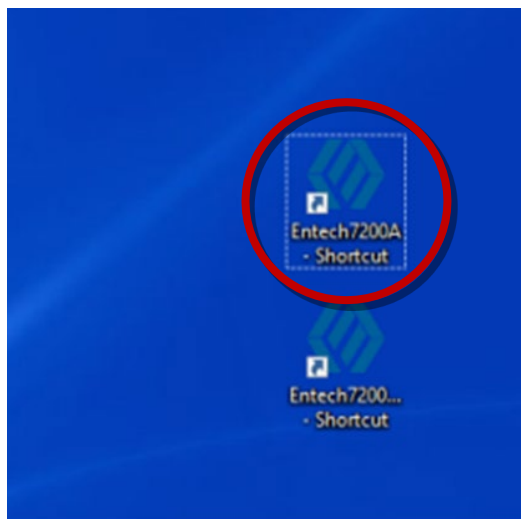

Figure 8. Entech 7200A Shortcut icon on desktop.
1. Double click the **Entech 7200A Shortcut** icon on the computer desktop (Figure 8) to establish communication between the Entech computer and the Entech system.